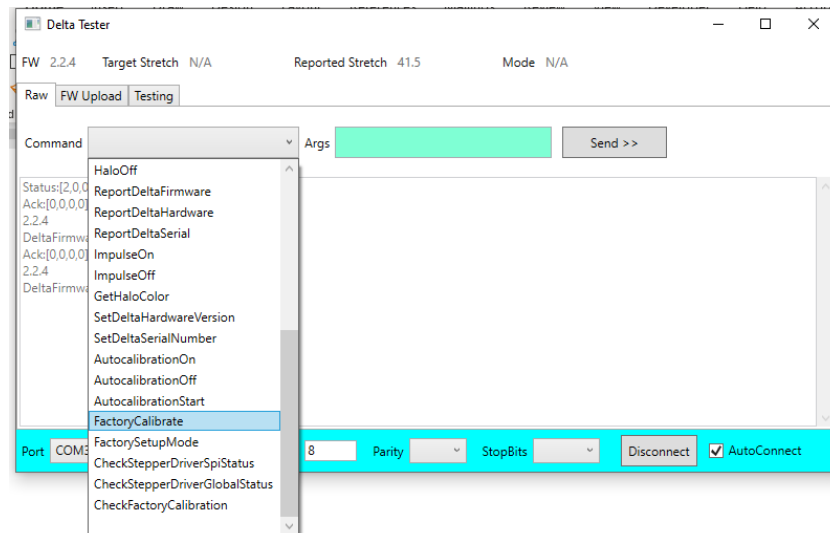

Figure 6: 'FactoryCalibrate' function from the 'Command' drop-down list.
8. The Delta then needs to be Factory Calibrated. If there isn't already, attach a nanopore to the jaws of the stretcher unit, as shown in figure 6.
9. In the 'Raw' tab, select 'FactoryCalibrate' from the 'Command' drop-down list, as shown in figure 6 and press 'Send'.